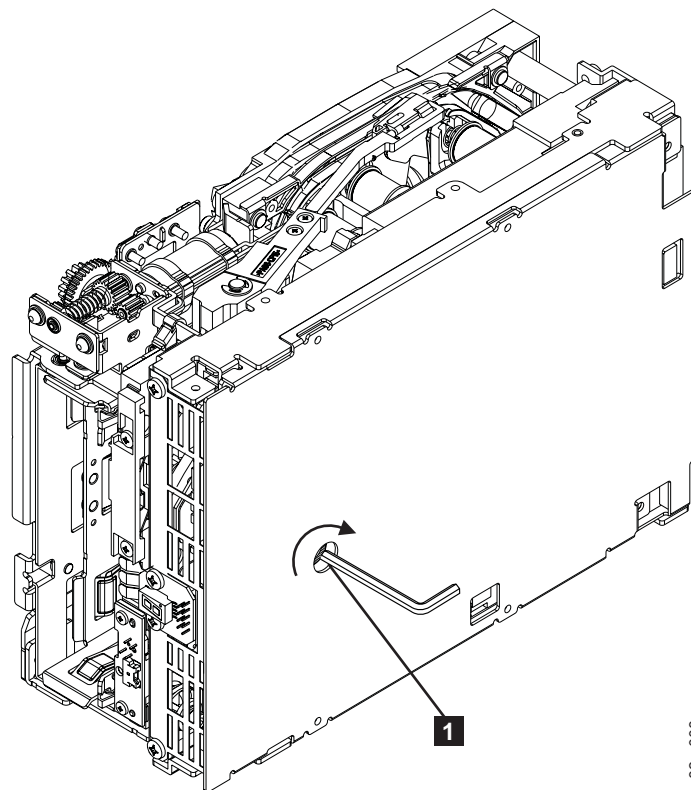

Figure 15. Using hex wrench to rewind tape into cartridge
- \_\_\_ 6. From the bottom of the drive, locate the access hole ( **1** in Figure 15) in the bottom cover. Insert a 2.5 mm offset hex wrench through the bottom cover access hole and into the reel motor axle. begin spooling tape back into the cartridge by turning the hex wrench clockwise.